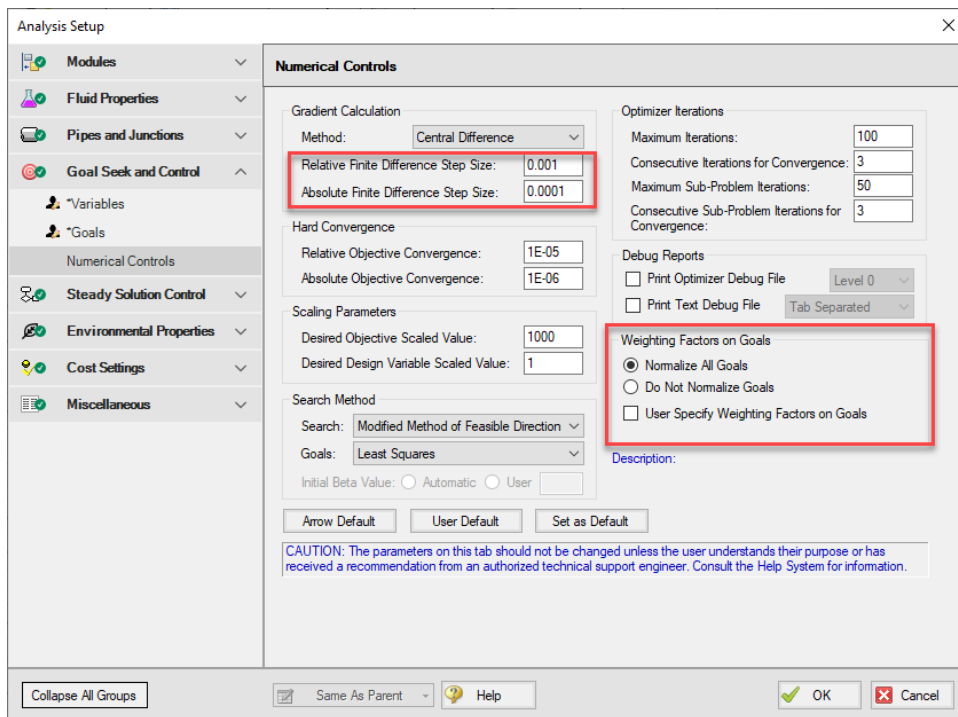

Figure 4: Changing certain numerical control parameters in the Numerical Controls panel may resolve goal seeking difficulties
- **Changing goal seeking numerical control** - Figure 4 shows the Numerical Controls panel in Analysis Setup. The most useful parameter one can adjust is the Relative Finite Difference Step Size. Using values between 0.01 and 0.001 are recommended. In some cases using a value as high as 0.1 may be tried.
There are two other options available. These can be selected on the Numerical Controls panel (Figure 4). The second option is to not normalize the goals. Each goal is then subtracted from the current value, and an RMS is taken of the differences. This becomes the function that is driven to zero. This method tends to work best when the numerical values of the goals are similar in magnitude.